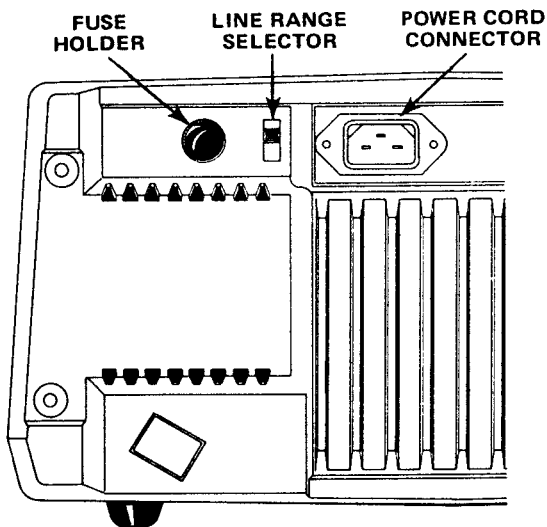

Figure 3-3. Power section of rear panel.
panel. Source selection is made with the LINE RANGE Selector on the rear panel (see Figure 3-3).
**b.** Using a small blade screwdriver or other small blunt item (similar to a dull pencil), slide the LINE RANGE Selector up or down to the desired position (see Figure 3-3).
**d.** Change the line fuse to the correct value indicated on the rear panel adjacent to the fuse holder (see Figure 3-3).